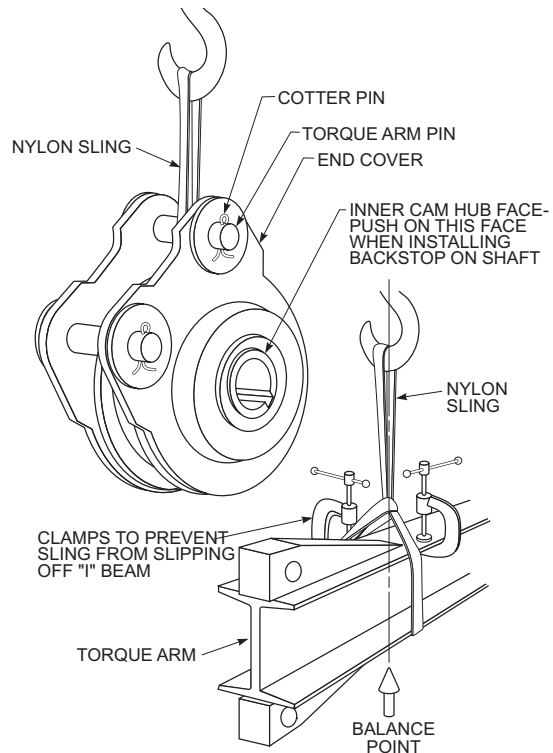

Figure 1
3. Remove torque arm. Refer to Figure 1 for proper method of supporting and lifting.
6. Remove backstop from shaft. Apply force to the inner cam hub face of the backstop only. (Figure 1)